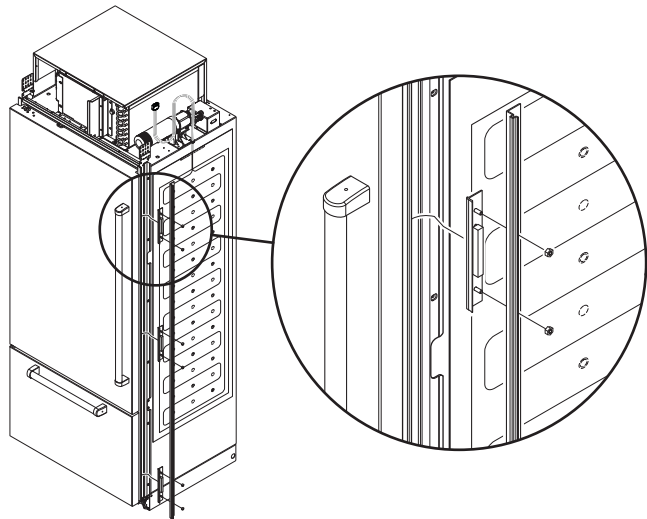

Figure 2. Center Trim and Trim Brackets
1. Attach the three L-Shaped Dual Trim Bracket Assemblies to the Dual Install Center Trim Piece, using nuts provided. DO NOT tighten nuts at this time (See Figures 2).